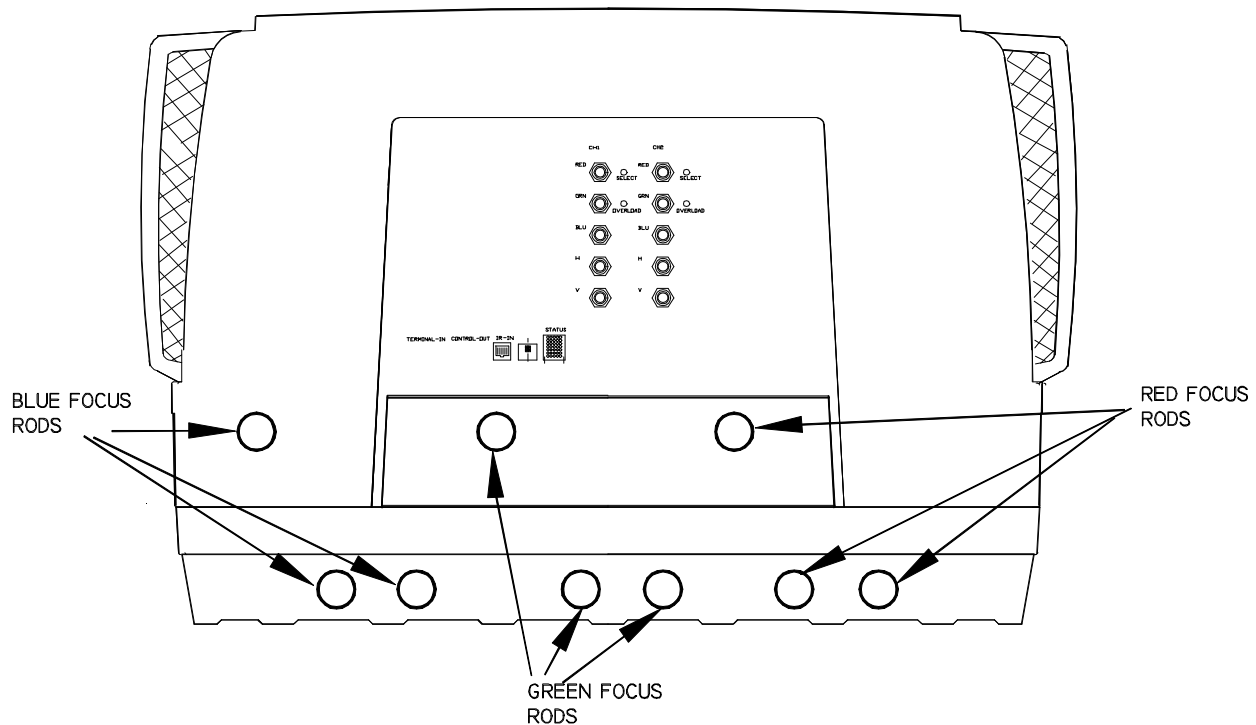

Figure 4-2. CRT Focus Adjustment apertures. Use a 5mm nutdriver to adjust the rods inside the apertures.
There are three adjustment rods for each CRT. The rods are accessed through holes in the base and fan casing at the rear of the projector (see Figure 4-2).
2. Remove the hole caps to gain access to the focus rods. For the Green CRT, use a 5 mm nut driver to adjust the lower-left rod of the Green focus rods (*see Figure 4-2*). Assistant should watch the upper-right corner of the screen for the sharpest focus. This focus rod is the CRT Z-axis position and affects the overall focus. Observe the upper right corner since it is the pivot point for the other two focus rods.